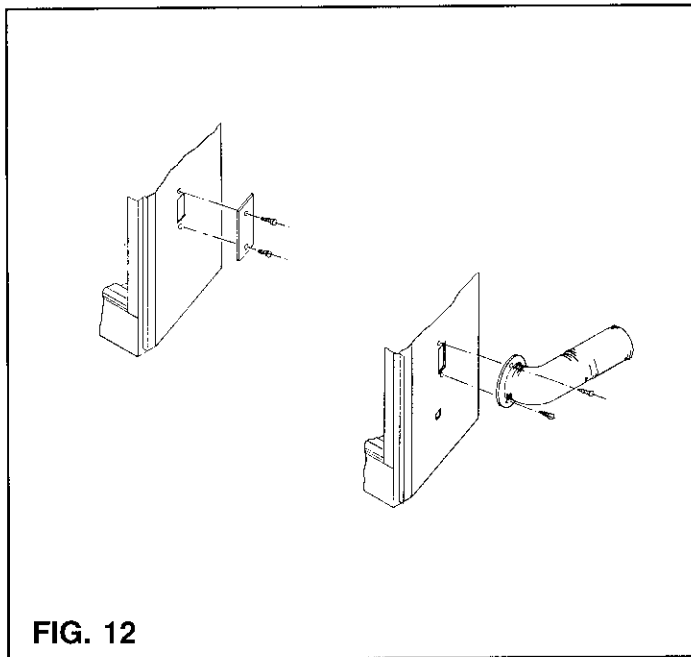

FIG. 12
STEP 1B: Remove the cover plate from the air inlet (Fig. 12). Place the airduct flange over the air inlet, align the holes, and secure the flange with the 2 screws which formerly held the cover plate.